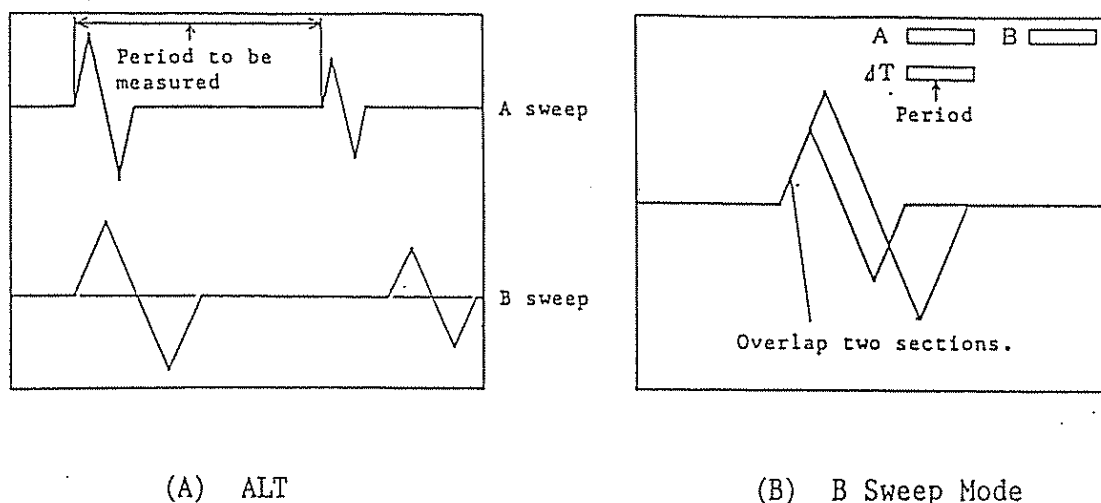

Figure 4-8. Time Interval (Period) Measurement with Delayed Sweep
- 2) Set the HORIZ MODE ③⑤ to ALT. Operate sweep in the continuous delay mode by releasing from the B TRIG mode.
- 3) Set the CURSOR SW ③① to Δ T. An A-sweep waveform with two intensity modulated sections and a B-sweep waveform with sections representing the same intensity-modulated sections but with delayed timings will appear on the CRT. (See Figure 4-8 A.)
- 4) With the RREADOUT control ③③, move the two intensity-modulated sections to the positions between which the time interval is to be measure. It also is possible to move the two intensity-modulated sections in a tracking mode keeping the distance between them unaltered.
- 5) Pull out the A, B TIME/DIV ④⑥ and set the B sweep time for more fine viewing of the measuring points on the delayed B sweep. Now you may set the HORIZ MODE ③⑤ to the B sweep mode so that the B-sweep waveform alone is displayed. When in the B sweep mode, you may employ the $\times 10$ MAG function.
- 6) By adjusting the READOUT control ③③, overlap the two measuring points on the B sweep waveform. (See Figure 4-8 B.)